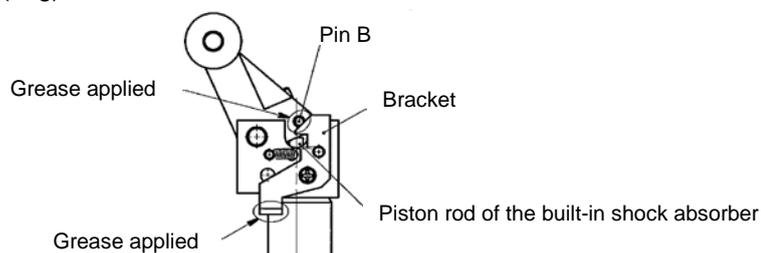

Fig.10
- ⑧ Please do not remove the grease applied to Pin B and the lock mechanism bracket on the end lever. If the cylinder is operated without grease, the locking and/or unlocking process may malfunction due to excessive wear on Pin B and the rod cover. Please check periodically the levels of grease present, and apply additional grease as necessary. (See Fig. 10)